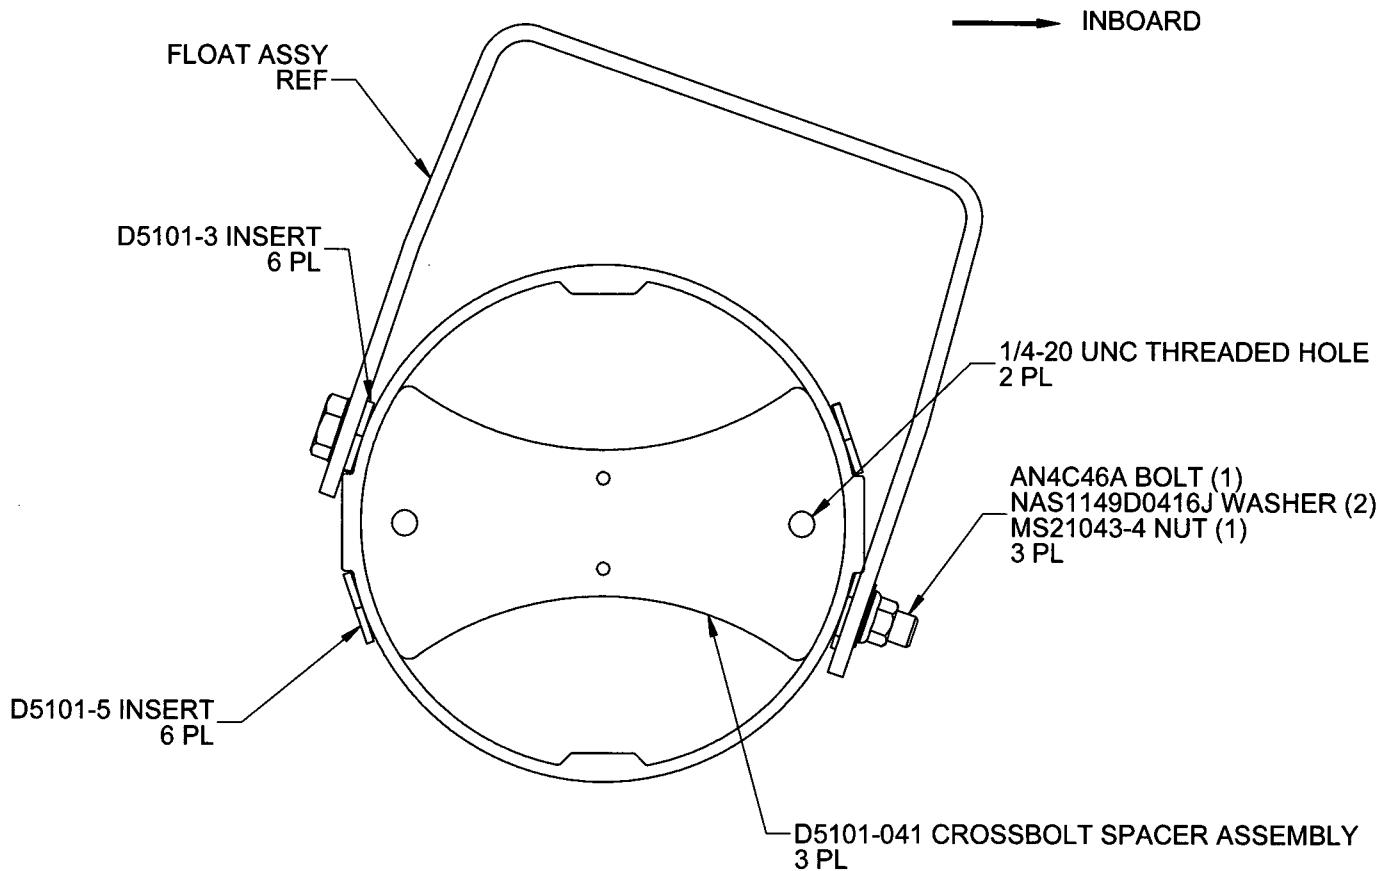

FIGURE 1: D5101-041 SPACER INSTALLATION
- 2.7 Using the D5101-3 and D5101-5 inserts, secure the D5101-041 Crossbolt Spacer to the skidtube. Reference Figure 1. Remove the threaded rod. Torque inserts to 95-110 in.lbs (10-12 N-m).
- 2.10 Reinstall the 604.0902 Float onto the skidtube using 3x AN4C46A Bolts per Figure 1.